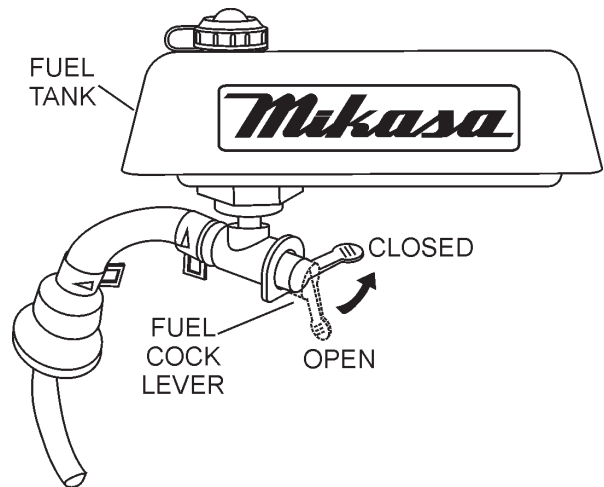

Figure 15. Fuel Shut-OFF Valve (Off Position)
2. Close the **fuel shut-off valve** (Figure 15) by moving the fuel cock lever to the **CLOSED** position.